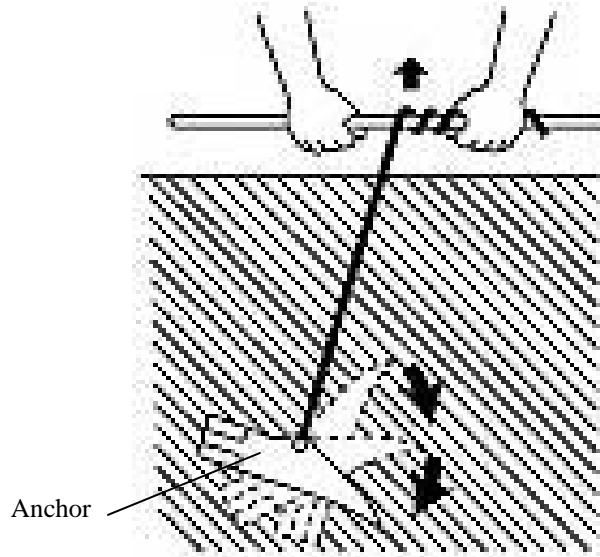

FIGURE 2.4-4. Locking Anchor
Step 3: With a rod through the loop or metal ring, pull up on the cable or threaded rod until the anchor rotates and locks (see Figure 2.4-4).